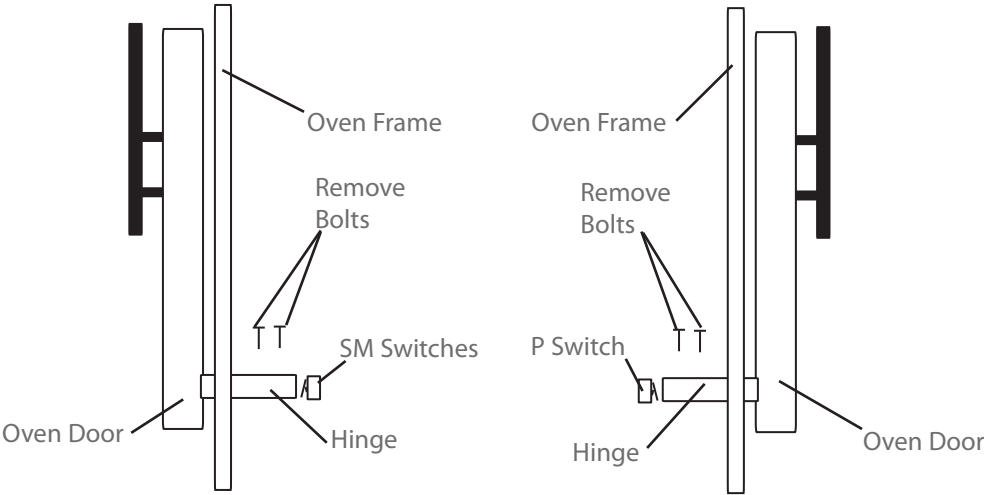

Figure 26A: Properly Adjusted Door - Side Views
2. Remove the two 1/4-20 bolts securing the door hinge to the oven (Figure 26A, page 25).